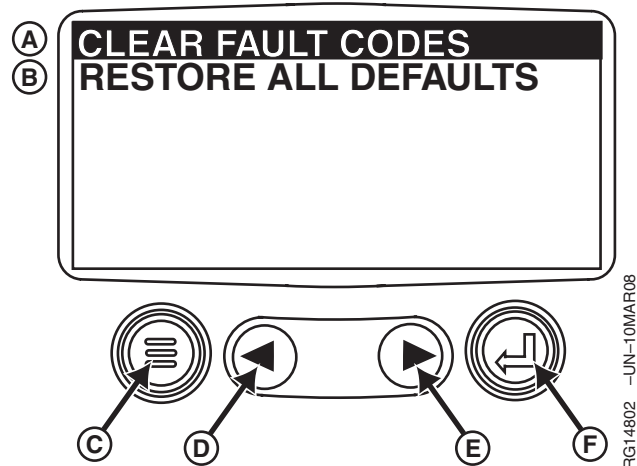

Figure 1. Clear Stored Fault Codes Screen
2. Turn power to diagnostic gauge ON. As soon as screen backlight comes on, simultaneously press and hold MENU (C) and ENTER (F) keys. See figure 1.
3. If successful, the screen shown in figure 1 will appear.
NOTE: If the screen in figure 1 does not appear, repeat step 2. This may take several attempts due to the short timing window.